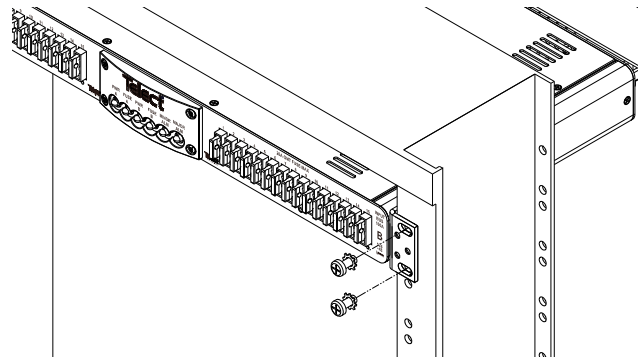

Figure 3 - Rack Mounting
3. Locate an unused rack position, normally at the top of the rack. Mount the panel to the rack using four, #12-24 thread-cutting screws and lock washers provided, as shown in Figure 3. Tighten screws to 35 in.-lb (4.29 N•m).